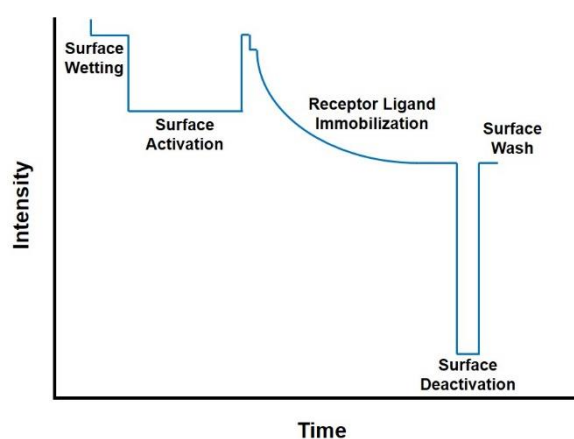

Fig. 2 General Standard/Sensor Chip NanoAu-MM surface modification sensorgram.
1. Follow the receptor ligand immobilization protocol for Standard Chip NanoAu-MM or Sensor Chip NanoAu-MM until the surface wash (buffer solution, 3 times) after surface deactivation. A general sensorgram is displayed in Fig. 2.